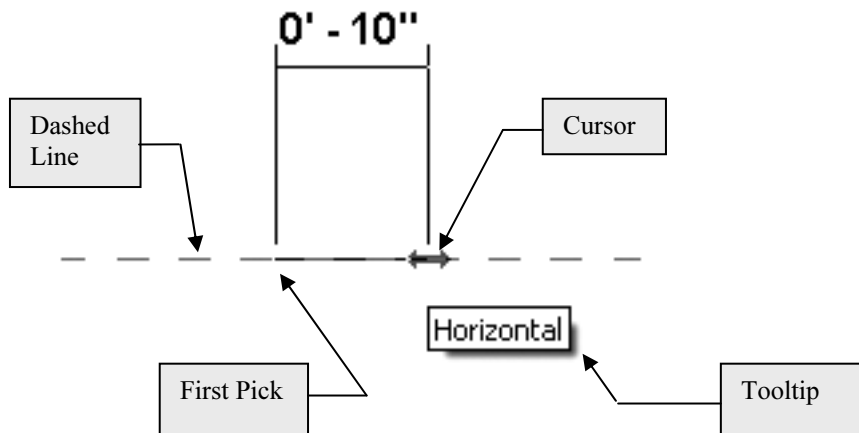

Figure 3-1.12 Drawing a line with the help of Revit
30. Start moving the mouse towards the right, and generally horizontal until you see a dashed reference line (extending in each direction of your line) appear on the screen as in Figure 3-1.12.